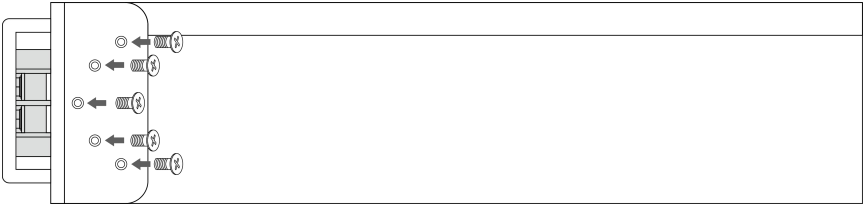

Figure 4-2
- a. Use the 10 screws of M4\*8 to fix two fixed ears to the battery, as show in Figure 4-2.